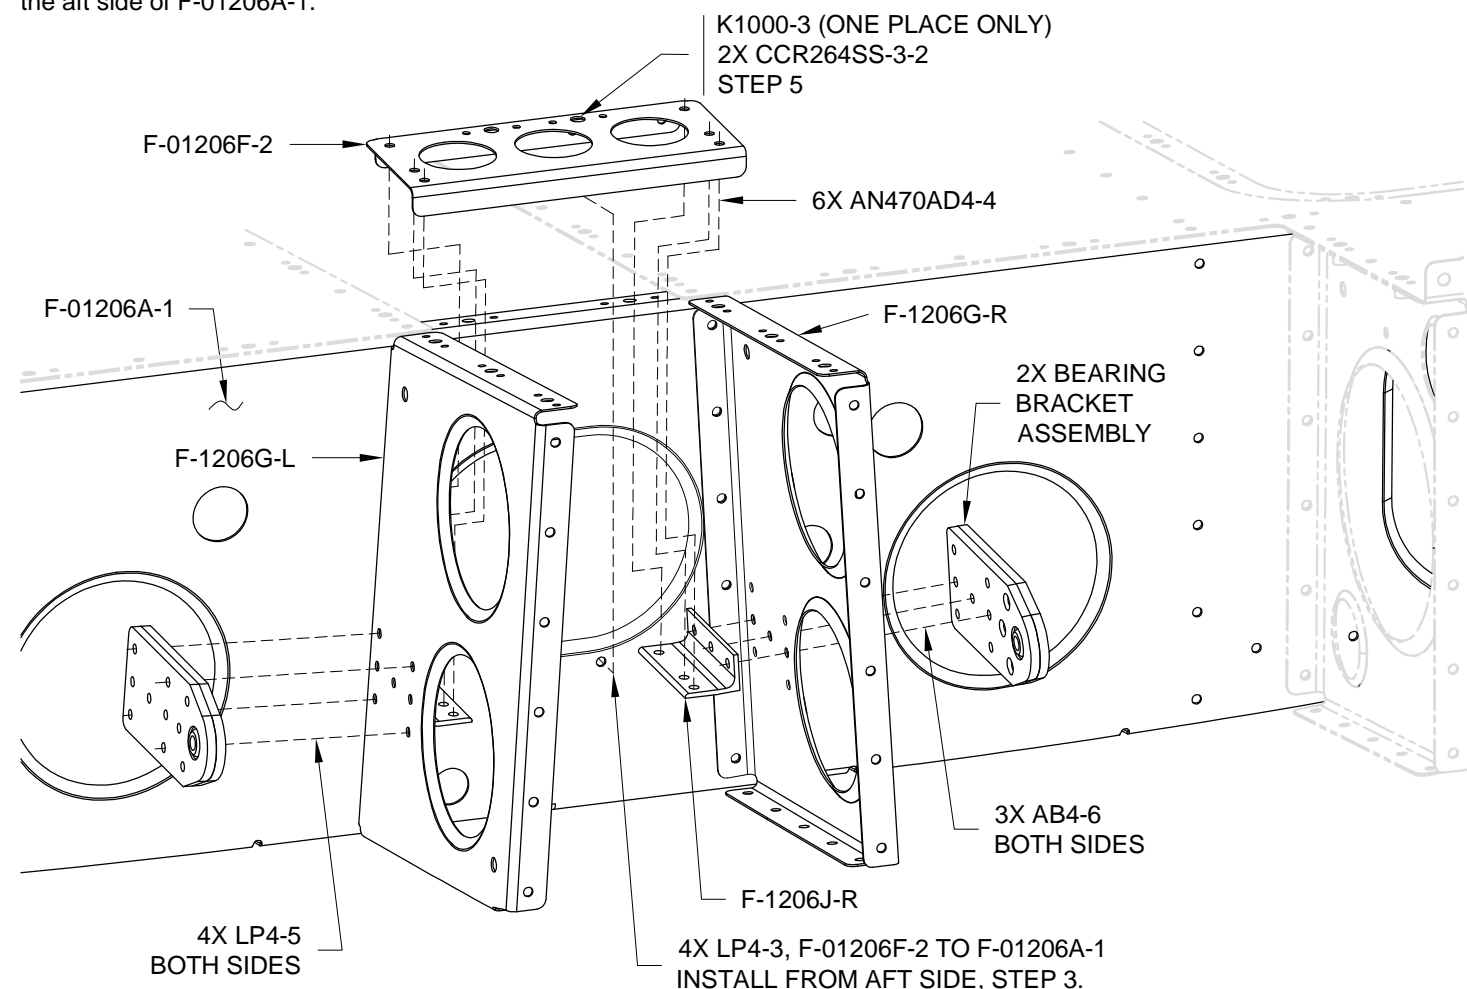

FIGURE 1: RIVETING F-01206F-2
DO NOT install the nutplate now. See Figure 1.
Step 4: Rivet the Bearing Bracket Assemblies to F-1206G-L & -R and to F-1206J-L & -R using the rivets called out in Figure 1. Place the flush, manufactured heads of the rivets in the Bearing Bracket Assemblies against the web of F-1206G-L & -R.